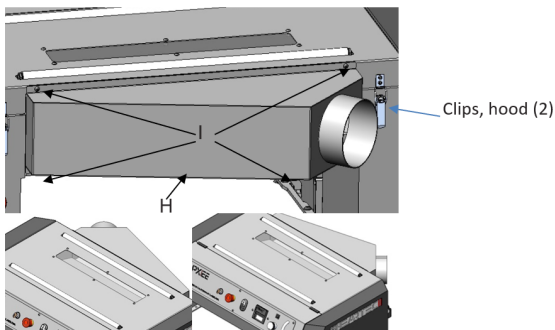

FIGURE 5: DUST CHUTE & HOOD CLIPS
4. The dust chute can be attached with the port facing either to the right or left. To attach use four included screws (Fig. 5, H) to mount to the rear (outfeed) side of the planer head.
1. Release the 2 Clips (Fig. 5) on each side of the hood.
2. Remove the two lower screws holding the dust chute in place (Fig. 5)